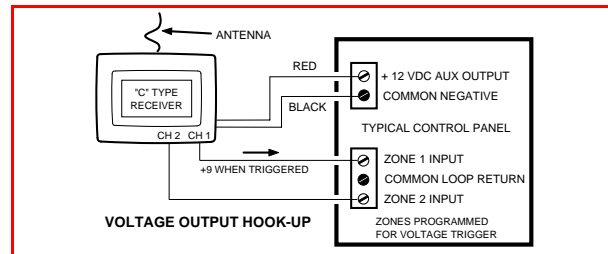

Figure 1. Typical "C" Type Wiring
The output wires on the "C" type voltage output receivers supply a positive trigger voltage to the connected device when the receiver detects a properly coded digital RF signal from a Linear transmitter. Each output channel wire will switch from an open state to +9 volts DC when activated. The voltage outputs are current limited to 10 mA maximum at 9 VDC, 40 mA maximum into a short. See Figure 1 for a hook-up example.
**\* NOTE: On all "C" and "D" type receivers, the common (-) of the receiver must be connected to the common (-) of the control panel or communicator (see Figures 1 & 2).**
**STEP 3** Connect the outputs to the zone input terminals on the control panel (see Figures 1, 2, and 3).